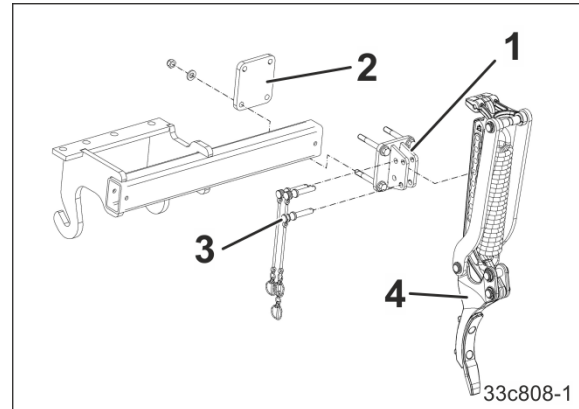

Fig. 80
- 1.1 Screw the wheel mark eradicator bracket (Fig. 80/1) onto the mounting frame using the clamping plate (Fig. 80/2).
- 1.2 Pin the wheel mark eradicator (Fig. 80/4) right at the top with the positioning pin (Fig. 80/3) and secure with a linch pin.